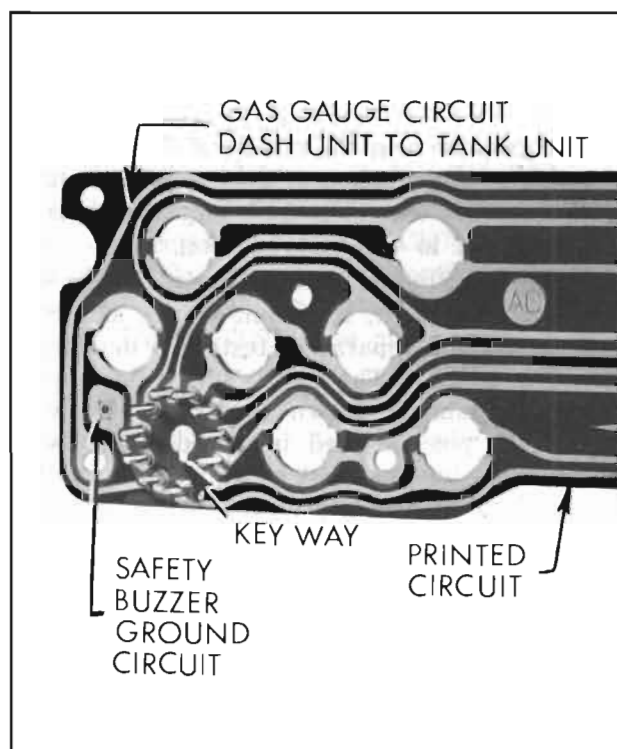

Figure 10-84—Printed Circuit—Left Side
2. Turn ignition on. Then with terminal of red test wire contacting the dash unit to tank unit circuit (rearmost circuit) on printed circuit, move arm of test unit up and down against the stops. See Figure 10-84. If dash unit is okay, the pointer will move freely from "Empty" to "Full" with movement of tester arm, indicating that trouble is in wiring. If pointer does not move or only moves part way, the printed circuit may be defective or the unit is faulty and should be replaced.
be in wire to printed circuit, in printed circuit or in speedometer. To check buzzer circuit up to printed circuit, contact buzzer circuit on printed circuit with one end of a wire while grounding the other end. See Figure 10-84. If buzzer operates, buzzer ground wire may not be attached to its pin on printed circuit or trouble is in speedometer.